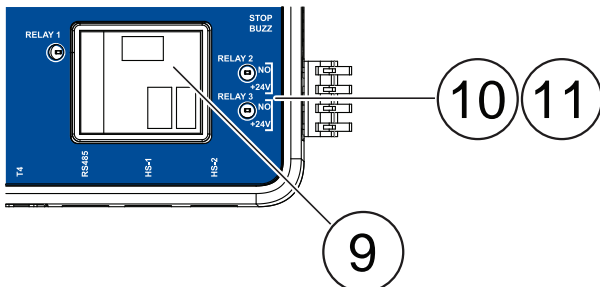

Figure 60. Relay Ports
- Relay capacity: (1) Mechanical 20A max at 240VAC (Figure 60 Item 9). (2) Solid state relays 30VDC, 2A max (Figure 60 Item 10, 11).
3. Install the relay wires in the appropriate relay port: mechanical (Relay 1) or solid state (Relay 2 and 3) (Figure 60).